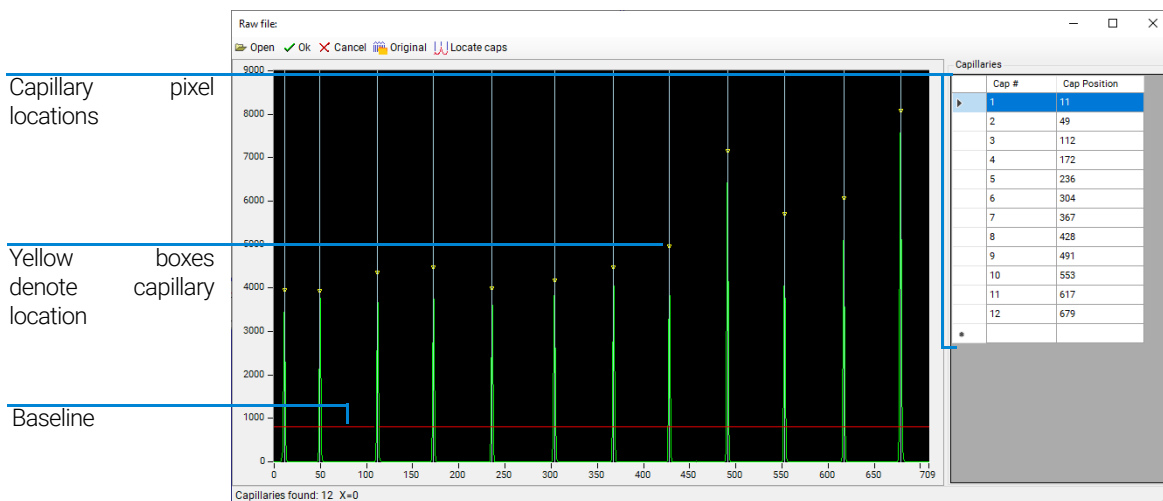
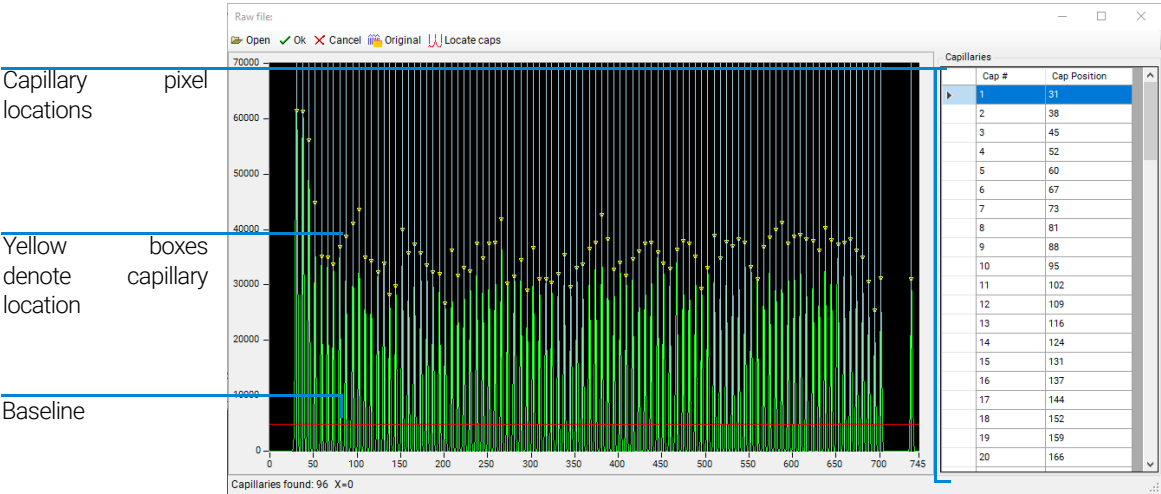

Figure 24 Align from file popup window for 12-capillary system
Figure 25 Align from file popup window for 96-capillary system
The *Align from File* window will open (**Figure 24** shows an example for a 12-capillary and **Figure 25** for a 96-capillary) allows you to align the capillaries from the selected run file. The toolbar of the *Align from File* windows is described in **Table 8**.
- 9 Left click on the red baseline and drag it upwards off the bottom of the graph but not above the top of capillary peaks, as shown in Figure 24 and Figure 25.